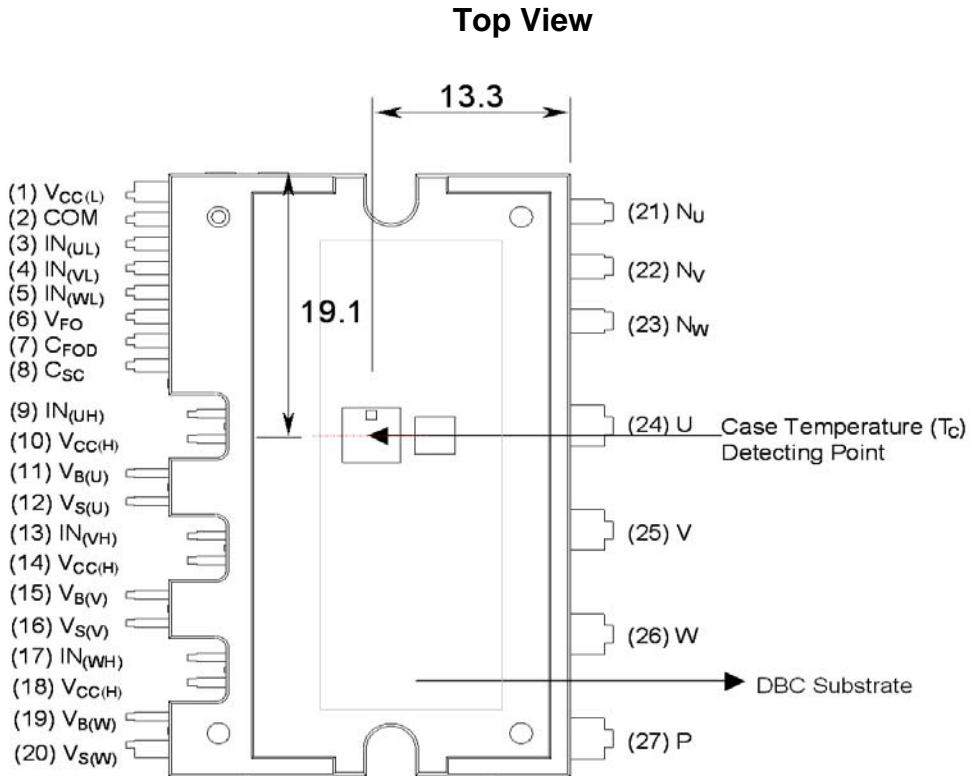

Figure 2.
2. For the measurement point of case temperature(T_C), please refer to Figure 2.